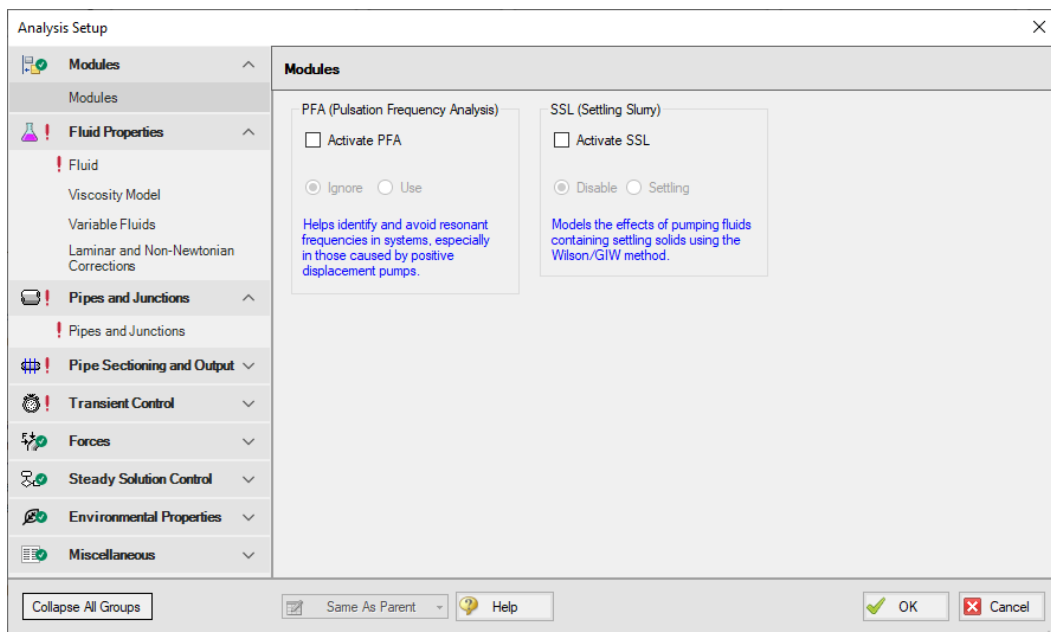

Figure 2.10 On the Modules panel, you can enable or disable any module
- **Click Analysis Setup on the Common Toolbar.** This opens the Analysis Setup window (Figure 2.10). The Analysis Setup window contains various *groups* depending on which Add-on Modules you may be using. Each group has one or more *items*. A fully defined group has every item within it defined with all required inputs. Complete every group to run the Solver. A group or item that needs more information will have a red exclamation point to the left of the group or item name. After completing a group, the group icon shows a green circle with a checkmark. After defining all groups, thus completing the Analysis Setup, the Model Status light in the lower-right corner turns from red to green.
Under the Modules group, click on the Modules item to open the Modules panel, shown in Figure 2.10. Here, you can enable and disable Add-on Modules if they are available on the license. These Add-on Modules include Pulsation Frequency Analysis (PFA) and Settling Slurry (SSL). By default, the model will have all modules disabled. Make no changes to this panel for this example.